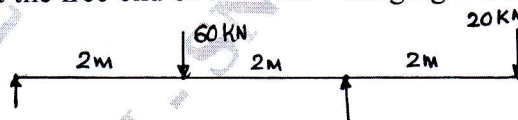

Fig Q9(b)
b. Calculate the deflection at the free end of the over – hanging beam shown in Fig Q9(b).